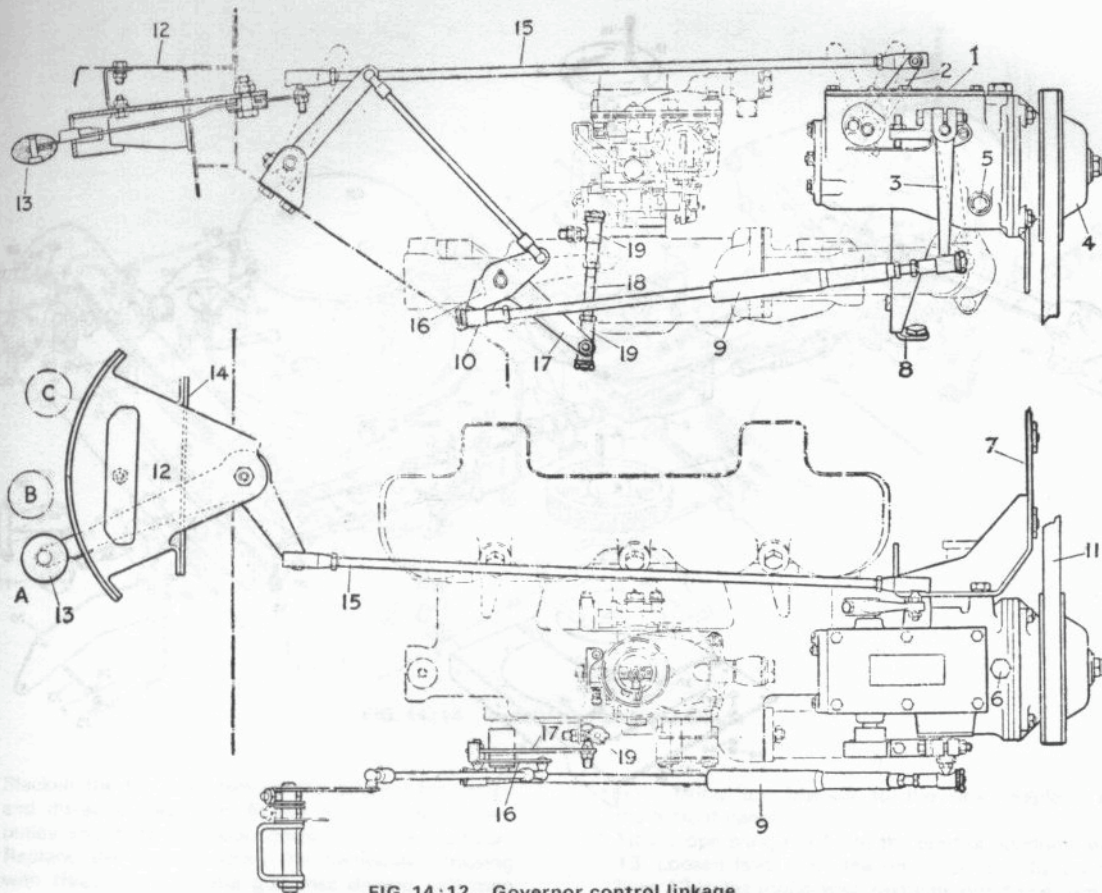

FIG 14:12 Governor control linkage
- 2 Refer to FIG 14:10 and undo the six nuts 26 and pull the pinion housing 23 from the housing 1. Retain any shims 24.
Key to Fig 14:12 A Inoperative position B 1500 rev/min C 3000 rev/min 1 Engine governor 2 Loading lever